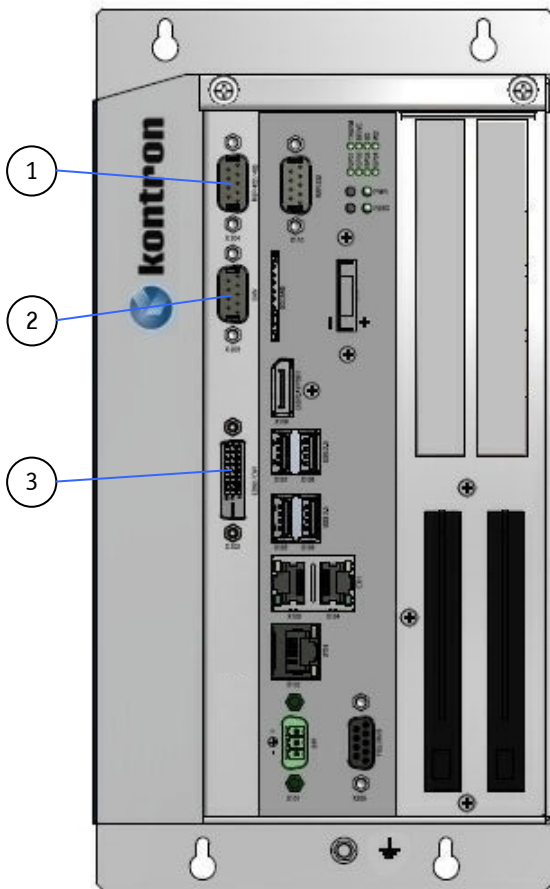
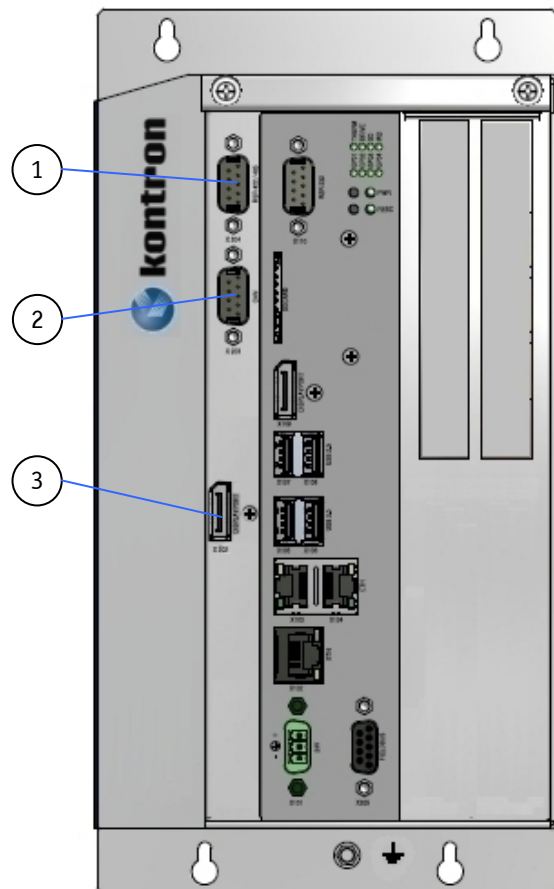

Fig. 33: KBox C-101-2 shown with optional interfaces and with removable drive bays
Fig. 34: KBox C-101-2 shown with optional interfaces and without removable drive bays
Legend for Fig. 33 and Fig. 34:
Your KBox C-101 can be extended, via an adapter module, with an additional serial interface RS232/RS422. This serial port (Fig. 33, Fig. 34, pos. 1) is available as 9-pin D-SUB connector (male), marked as "SERIAL" on the front side of the system. It must be factory configured as RS232 or RS422 corresponding to your ordered port configuration. The serial port will be configured via an on-board DIP switch (SW1) for RS232 or RS422 serial communication.
Your KBox C-101 can be extended via an adapter module with a CAN port, that allows you CAN Bus communication. The optional CAN port (Fig. 33, Fig. 34, pos. 2) is implemented as a sub-D 9 pin connector (male). This port is galvanically isolated (500 V).
The DVI-D port (Single Link) (Fig. 33, pos. 3) marked "DVI" supports digital connections. Digital devices can be connected directly to this interface of the KBox C-101.
The DP 2 port is a DisplayPort compliant interface realised using a standard DisplayPort connector. An external (digital) display can be connected to the DisplayPort connector (DP 2) (Fig. 34, pos. 3).